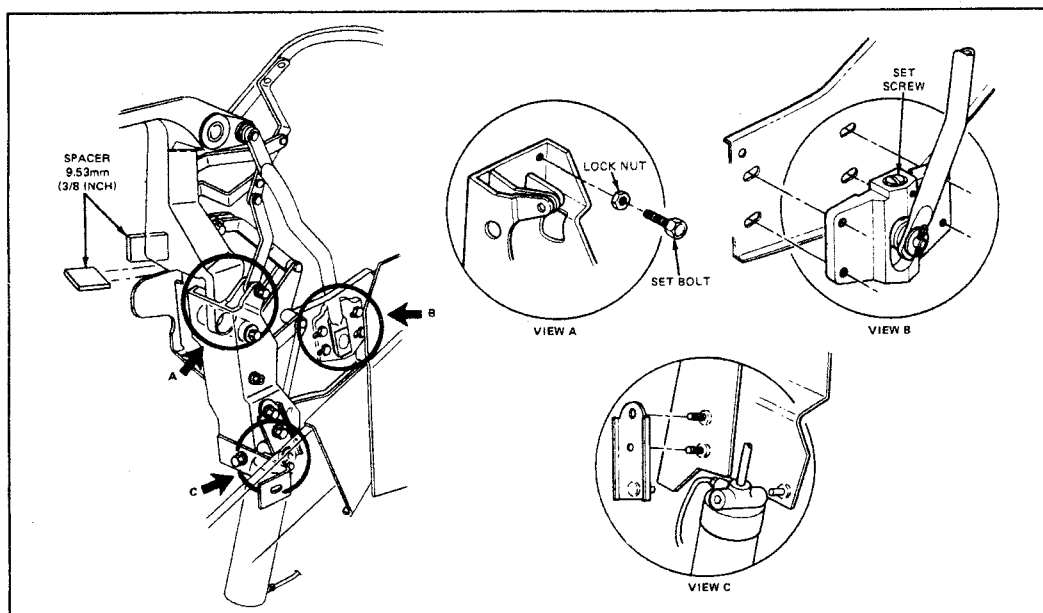

FIG. 5 Rear Folding Mechanism
- Loosen two bolts on front face of main pivot bracket to support folding top (allows inboard/outboard adjustment) (Fig. 5, Main View).
- Loosen two bolts on inboard side of folding top main pivot bracket to main power link (allows rail adjustment up/down at door glass, and stack height adjustment) (Fig. 5, View C).
- Adjust rear rail horizontally and vertically to the quarter panel by using a 9.5mm (3/8 inch) spacer (Fig. 5). (This allows clearance of top material and rails to quarter panel molding and trim panel).
- Adjust rear rail to quarter glass physically to provide weatherstrip sealing to quarter glass and lock set screw to contact rear rail (Fig. 5, View A).
- Align roof rails and weatherstrip to seal along top of door and quarter glass by adjusting set screw (Fig. 5, View B).